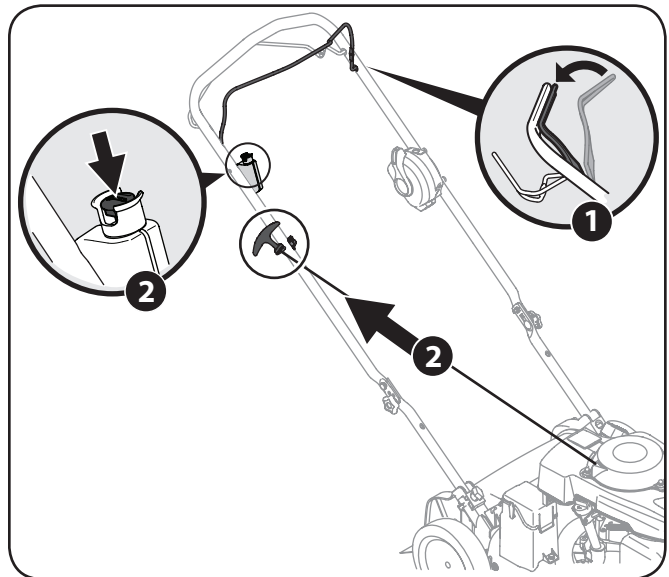

Figure 5-4
1. Standing behind the mower, depress the blade control handle and hold it against the upper handle. See Figure 5-4.
**Electric Start:** Insert plastic push key into starter button until it snaps in. Push the electric starter button to start the engine. See Figure 5-4.